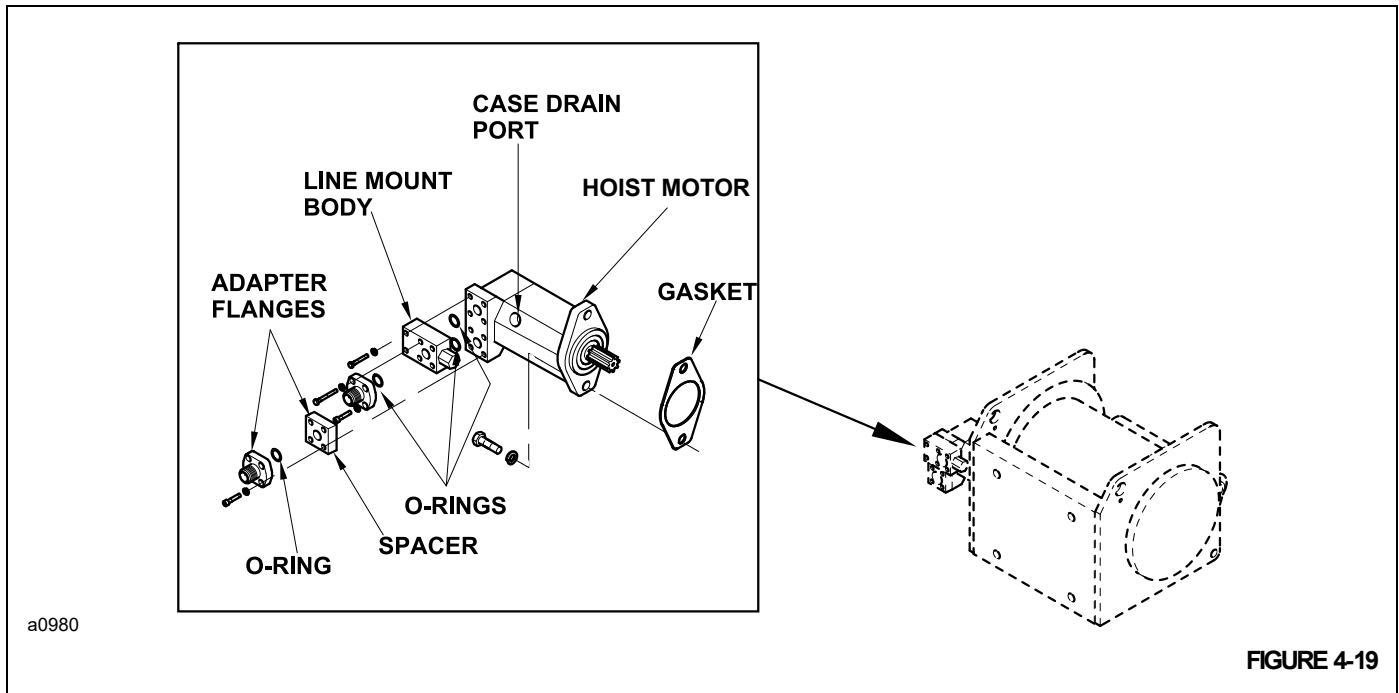

FIGURE 4-19
4. Remove hoses, fittings, the adapter flanges, spacer block and line mount body Figure 4-19 from the pump. Discard all O-rings. The Tulsa model is shown, but the Braden model is similar.
1. Install the line mount body Figure 4-19, spacer and adapter flanges to the hoist motor. Be sure to use new O-ring seals.
3. Fill the hoist motor with hydraulic fluid through the case drain port Figure 4-19 to the bottom of the fill plug with clean hydraulic oil.